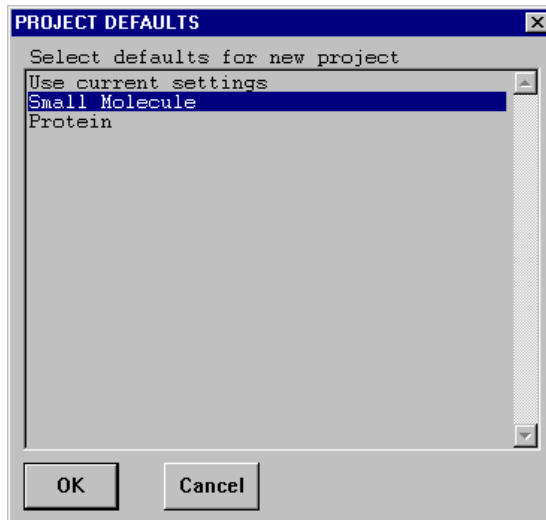

Figure 4-14. Project defaults
7. Click Yes (normal response). SMART then asks you to load the system default settings (Figure 4-14).